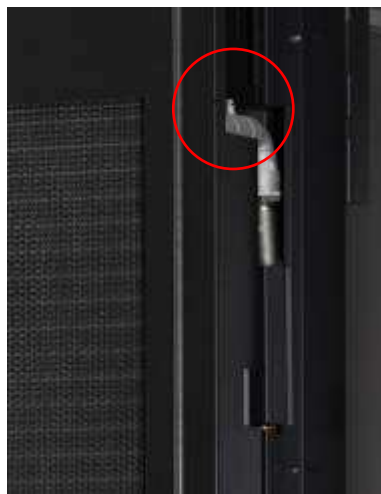

Fig. 26 Bleeding point
1. Find the bleeding valve. This valve is located on the upper door piping (see Fig. 26).